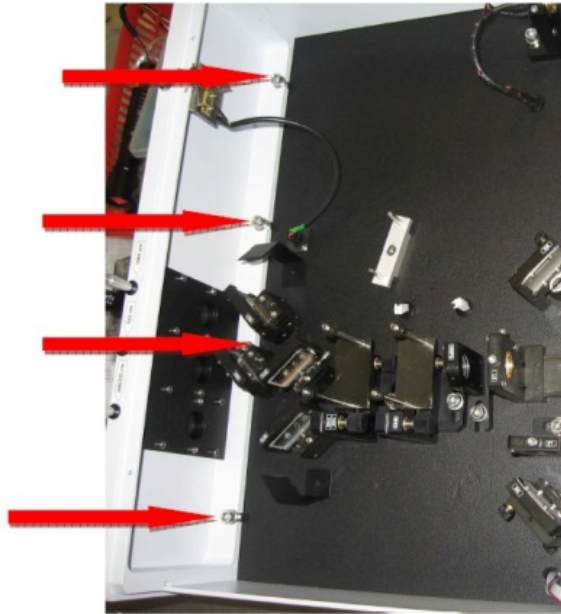

Figure 8 Relieving the fixing bolts. Generic view; internal optical components may look different
7. Relieve the bolts fixing both end panels to the inner breadboard pedestal to the extent (roughly for 90 degrees) that panels can move freely a little, see Figure 8. This makes breadboard less sensitive to tensions caused by thermal expansion of the panels.